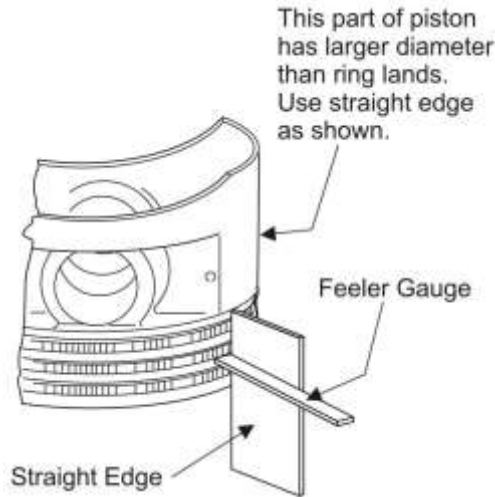

Figure 21
- G. To ensure correct installation, measure the side clearance of the rings in the grooves with a feeler gage and a straight edge (Figure 21). If the actual measurement is greater than the maximum allowable side clearance, per the latest revision of the *Service Table of Limits - SSP-1776*, replace the piston.